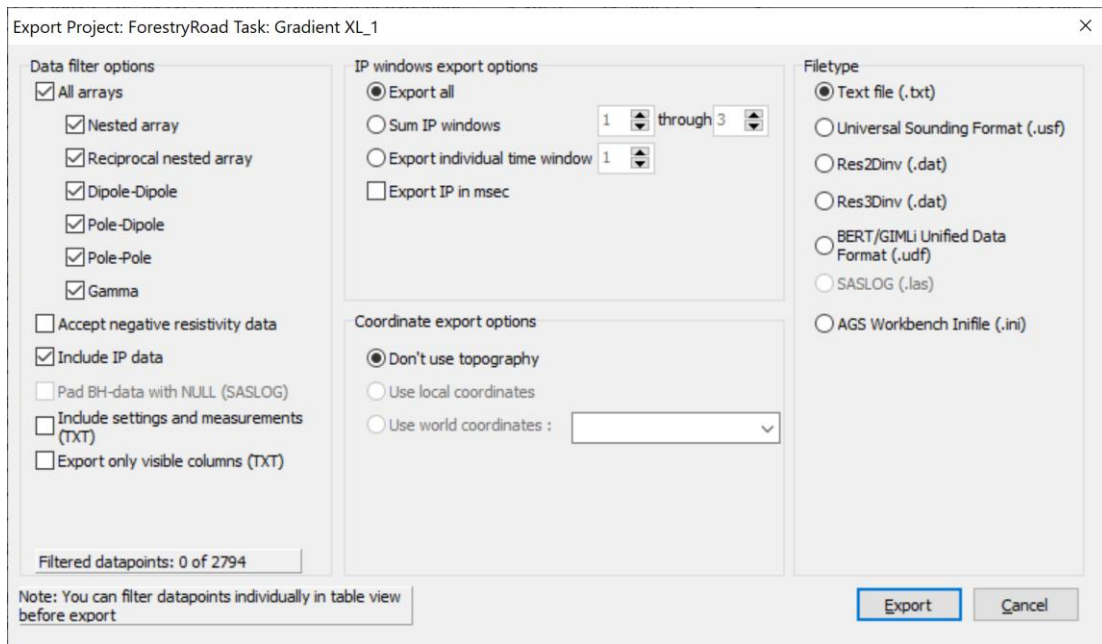

Figure 128 LS Toolbox export window
- Export data to a number of different formats (“Export...”, see Figure 128)